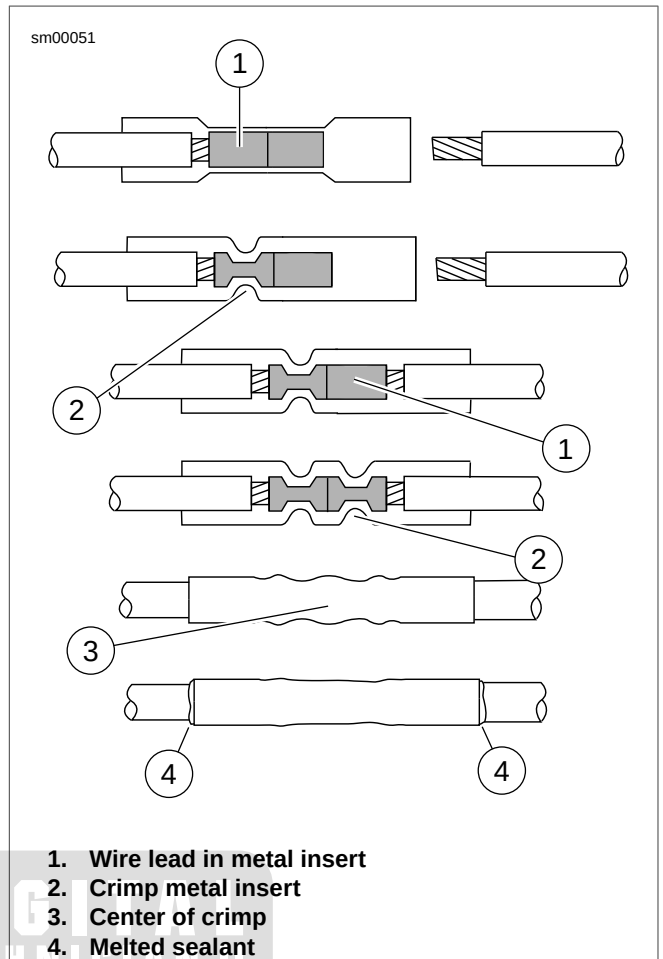

Figure A-53. Sealed Splice Connector
See Figure A-53. The connector is crimped twice - one side and then the other.
- See Figure A-53. Feed the stripped end of a wire into the connector until the wire stops inside the metal insert (1).
- Squeeze the handles tightly closed to crimp the lead in the insert (2). The tool automatically opens when the crimping is complete.
- Slide the connector to the other half of the metal insert. Insert the stripped wire lead (1) until it stops, and crimp the lead in the insert (2).
See Figure A-53. Allow the splice to cool and inspect the seal. The insulation should appear smooth and cylindrical. Melted sealant will have extruded out the ends (4) of the insulation.